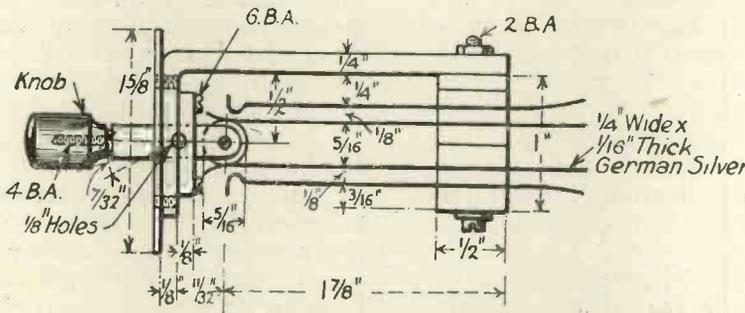
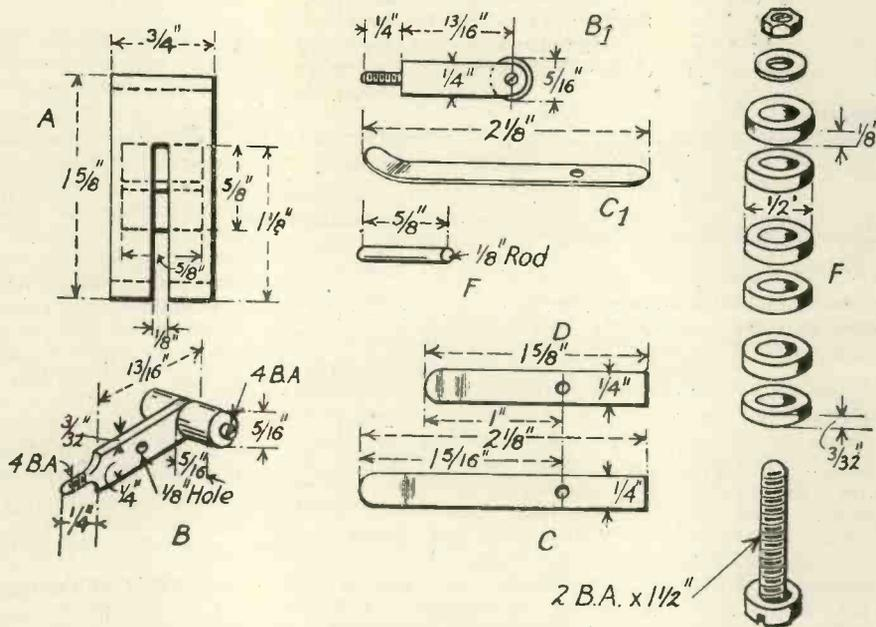

Fig. 2.—Giving the dimensions of the switch.
Fig. 3.—Showing the different parts of the switch mechanism separately and in detail.
Fig. 2 shows the complete switch and illustrates the sizes, so as to make clear the amount of space such a device will occupy on the back of the panel. This type of switch has been designed so that it will be found to be efficacious when used for controlling high-frequency circuits in wireless receivers, whereas the ordinary Army pattern of Dewar switch sometimes has the contacts rather
Fig. 3 (B) shows a perspective view of the little switch arm which is used to cause the upper and lower sets of springs to contact with each other, whereas B1 shows an elevation of the same thing. This should be cut from 3-32nds brass strip  $\frac{1}{8}$  in. in width, and may have small holes drilled in the centre and at one end to take  $\frac{1}{8}$ th and 6B.A. rods respectively.
Fig. 3, C and D, shows the long and short contact springs of the switch respectively. In order to avoid the difficulty of attaching silver or platinum contacts to these springs, they may be made from German silver  $\frac{1}{4}$  in. wide and  $\frac{1}{16}$  in. thick. This German silver strip can be bought from most large accessory dealers and is not at all expensive. Great care must be taken when bending the longer contact to get the radius at the end of them correct, for it is on this that the action of the switch depends. When the switch knob is depressed the roller should travel outwards from the centre to a distance of  $7\text{-}32$  in, and at that point it should have run over the shoulder of the longer spring caused by the radius, thus tending to press the spring out-
Fig. 3 F shows the small rod on which the switch arm moves. This should be  $\frac{1}{16}$  in. in diameter, and after the small brass plate has been attached to the back of the main brass supporting plate by means of small-headed screws, as shown in Fig. 2, the  $\frac{1}{16}$  in. hole may be easily drilled with an ordinary hand drill between the two plates so as to take the bearing pin. After the central switch arm B is in position, a punch-dot should be made on each end of this central arm F, so as to prevent it from moving at all in the hole should the hole be drilled a little large. This will ensure the switch having a "tight" action at all times, otherwise it feels rather unpleasant after a time, and one's friends are inclined to think the switch a shoddily-made article. The next item to consider is the means by which the springs are spaced apart at the correct distances. The arrangements for this purpose are shown at F(3), and, as will be seen, consist of a number of ebonite washers  $\frac{1}{16}$  in. in thickness. It is sometimes an advantage to have these washers of varying thicknesses, but if the switch is carefully constructed according to Fig. 2, washers as dimensioned in Fig. 3 will be found to be quite suitable. Care should be taken, in making this switch a multi-contact one, to keep the German silver springs well to the outside of the washers, so that they will not tend to short-circuit on the centre screw which holds the whole assembly
explanatory, and no further description is really needed. If desired, of course, the face-plate A, Fig. 3, may be omitted and the switch bracket attached directly to the panel by means of the small tapped holes indicated. If the face-plate is used, these small holes can be used both to attach the face-plate to the switch and the switch to the panel. Care should be taken that the screws are not so long that they foul the movement of the arm B when assembled.
The only region in the conductor in which the motion of the electrons is restricted is at the surface, and here the phenomenon is analogous to that of surface-tension in the case of a liquid. If an electron arrives at the surface of a conductor, the attraction of the surrounding atoms is no longer uniform in all directions, since there are atoms of the substance on one side only of the surface boundary (Fig. 2). An electron attempting to pass outwards through the surface-boundary is therefore subject to a resultant force tending to keep it within the body of the conductor. For this reason the electrons (at ordinary temperatures) never leave the conducting wire, but travel through it as through a tube.
Fig. 2.—Section of conductor showing atoms at surface boundary. Electron A, within conductor, is attracted uniformly in all directions. Electron B, at surface, has a resultant attraction tending to prevent escape through surface boundary.